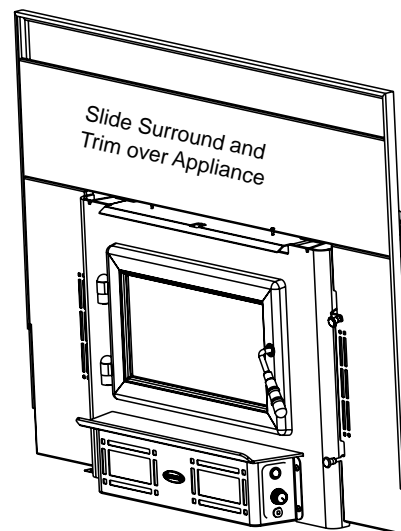

Figure 41.4
5. Slide the assembled trim set over the surround set. and then over the applique. **Figure 41.4**.